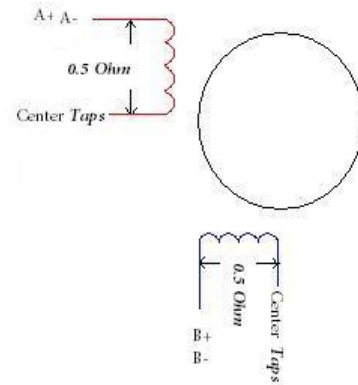

Fig 8 - Typical 8 wire Stepper motor
5. 8-wire motor (Parallel Connected): In an 8-wire Parallel connected stepper motor the center tap wire need to be connected together. The user must also connect the A+ and A – and B+ and B – wires together. Then, connect one motor phase to A + and A – on the drive, and the other motor phase to B+ and B- on the drive. (Fig. 8)